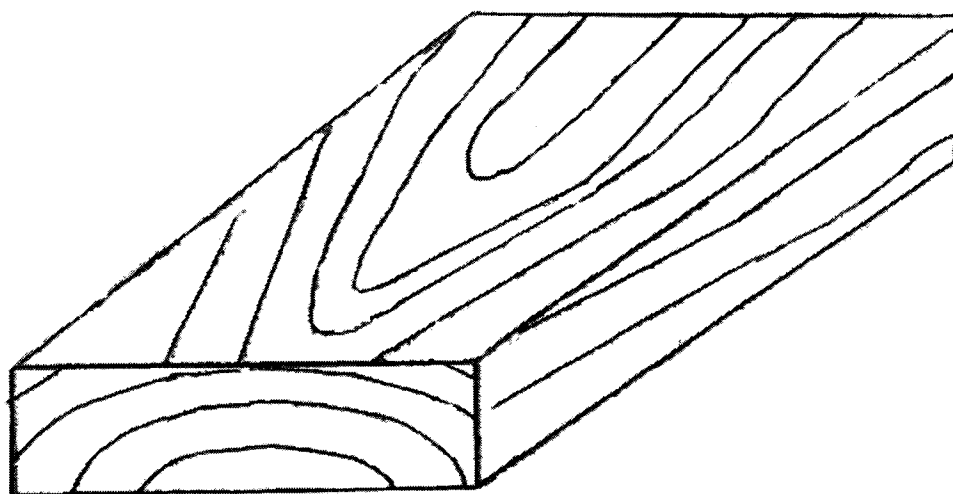

Figure 2
2. On the piece of timber given in Figure 2 below, draw the following: